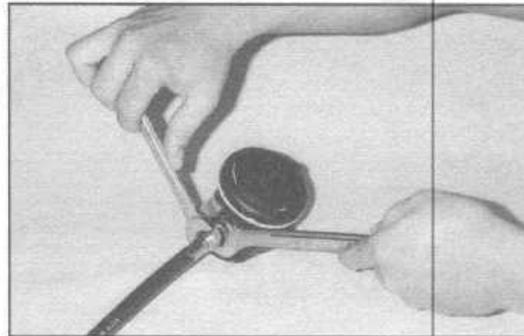
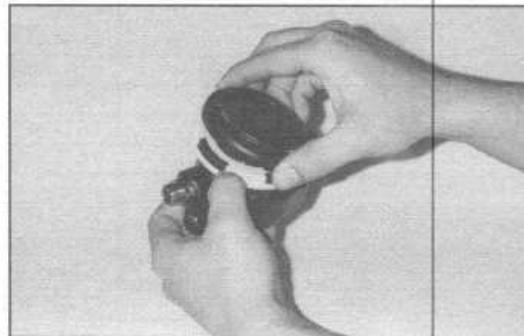

FIG 6-1
FIG 6-2
1. Remove the LP hose (14) from the second stage using only the following technique. Grasp the hex portion of the inlet coupler (10) with a 3/4" open end wrench. Next, use an 11/16" open end wrench to loosen the LP hose nut in a counterclockwise movement. Refer to figure 6-1.
2. Examine both the threads of the inlet coupler and the hose nut for damage or severe corrosion. Record your findings. It is best at this time to also examine the LP hose o-ring (12) to determine replacement need. Remove and inspect the o-ring for signs of decay (see Section 4.0 INSPECTION TECHNIQUES for guidance). RECORD FOR REPLACEMENT.
3. Remove the diaphragm cover (22) by using your finger nail to gently depress the locking tang located on the diaphragm retainer (23) and twisting the cover 1/8 turn counterclockwise. Refer to figure 6-2.
4. Remove the diaphragm retainer (23) by gently prying upwards all around until both the retainer & the diaphragm come off as an assembly. Remove and inspect the